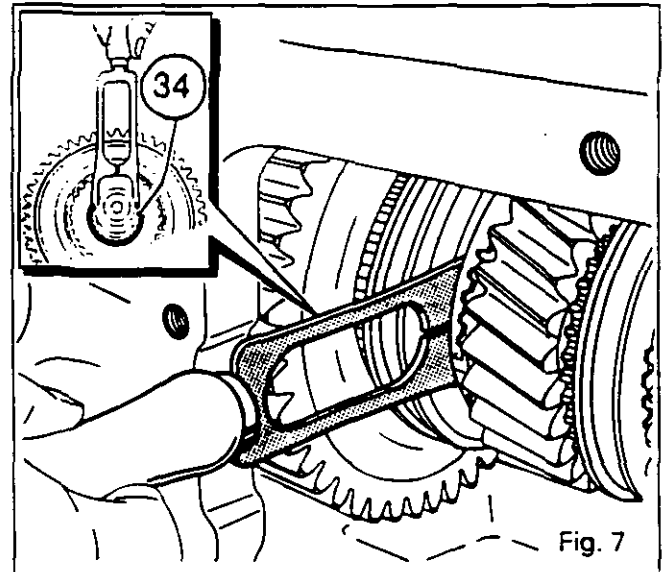

Fig. 7
12. Remove the locking ring (46).
13. Remove the bearing cup (48).
14. Remove the circlip (45).
15. Remove the packing shim (43) and the adjusting shims (42).
16. Remove the bearing cone (40).
**Note : If shimming was required between the cones, remove the shim or shims (47).**
17. Remove the cone (39).
18. Remove the adjusting shims (38).
19. Pull the shaft (44) towards the rear.
20. Remove the snap ring (34) using tool MF 460 and discard it (see Fig. 7).
22. Through the opening in the selector cover, take out the synchromesh (31), the synchromesh rings (33) and (74), the gear (29) with cones (75) and (76), the ring (25), the two thrust washers (27) and (32) and the Tortoise gear (36).
**Note: Keep the synchromesh rings (25) and (74) paired with the cones (75) and (76), and ring (33) with cone (73).**
23. Remove the cap (37) and circlip (49).
24. Remove circlip (19), washer (22) and the needle-roller bearing (24).